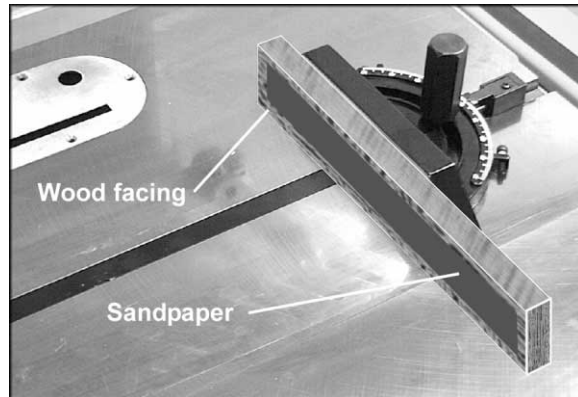

Figure 33
5. To improve the effectiveness of the miter gauge in crosscutting, some users mount an auxiliary wooden extension face (with a glued-on strip of sandpaper) to the miter gauge as shown in Figure 33.